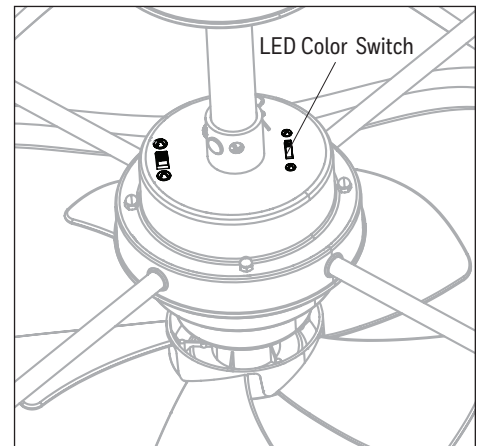

Figure 6.3
3. The LED has three color settings that range from 2700K (soft white) to 6500K (cool white). The factory setting for the LED is 2700K. If desired, adjust the LED color switch to change the color temperature (Figure 6.3).